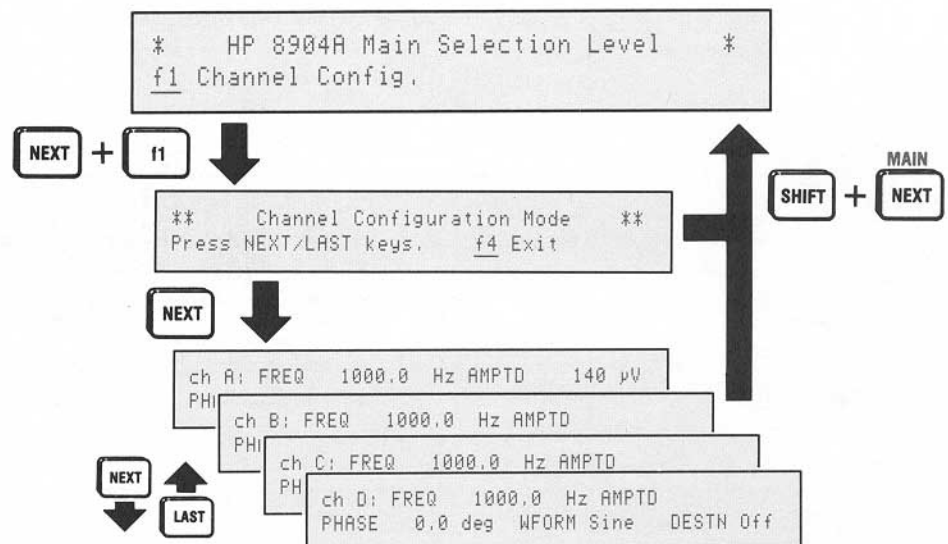

Figure 2-1. All Four Channels Can Be Accessed After You Have Pressed the **f1** Channel Config. Softkey.
7. Continue pressing the **NEXT** key to step through the **Configuration displays for Channels B, C and D**. These are the four channels provided by Option 01. Figure 2-1 shows how to access the four channels.